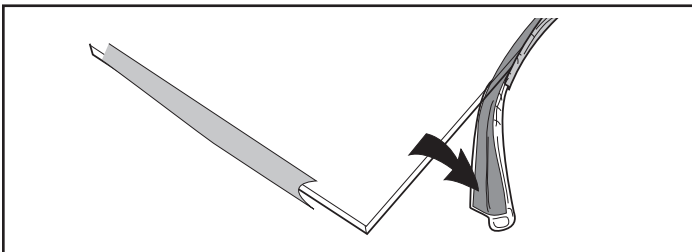

Figure 7.2 - Wrap the gasket material around the outside edge of the glass.
3. Starting on a long edge, remove about 6" of the protective paper strip and apply the flat adhesive face of the gasket around the outside-facing edge of the panel. Continue around the panel, applying a bout 6" at a time and being careful to not stretch the material. Do not overlap the gasket ends, Figure 7.2.